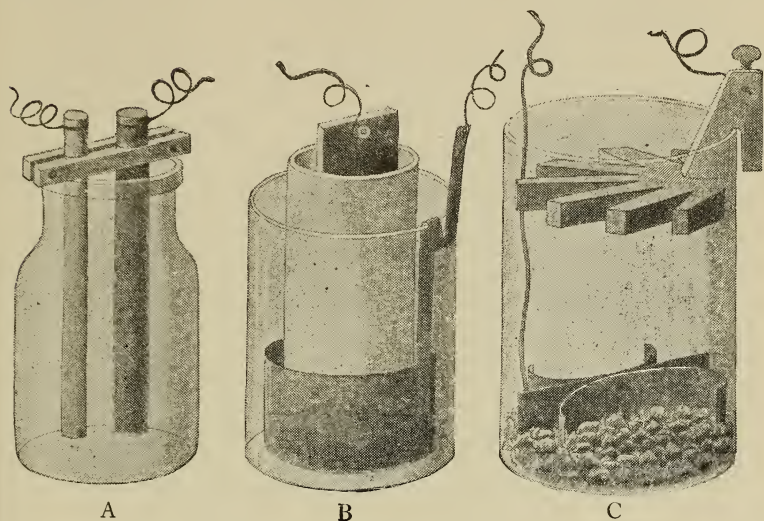

Fig. 8
In Fig. 8 are shown different types of wet batteries: the carbon and zinc rod cell (A); two-fluid cell (B); gravity cell (C).